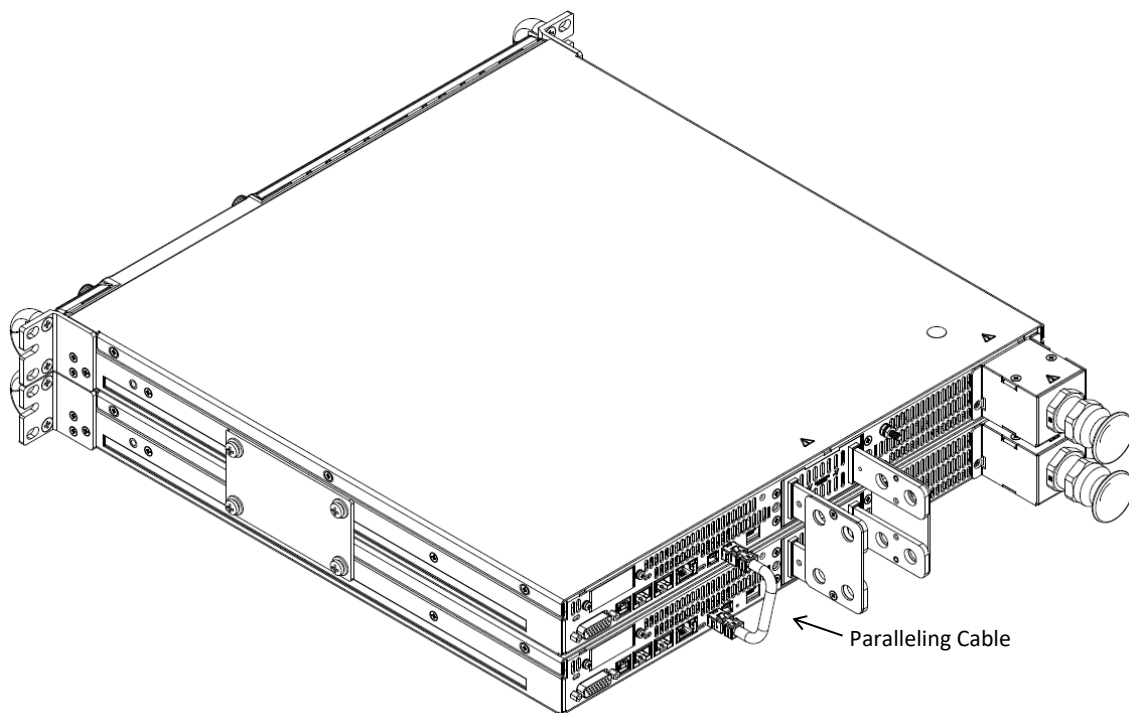

Figure 10: Two 20V-40V Units Paralleling Cable Connection
3. Connect paralleling cable from top unit M connector to bottom unit S connector as illustrated in Figure 10.